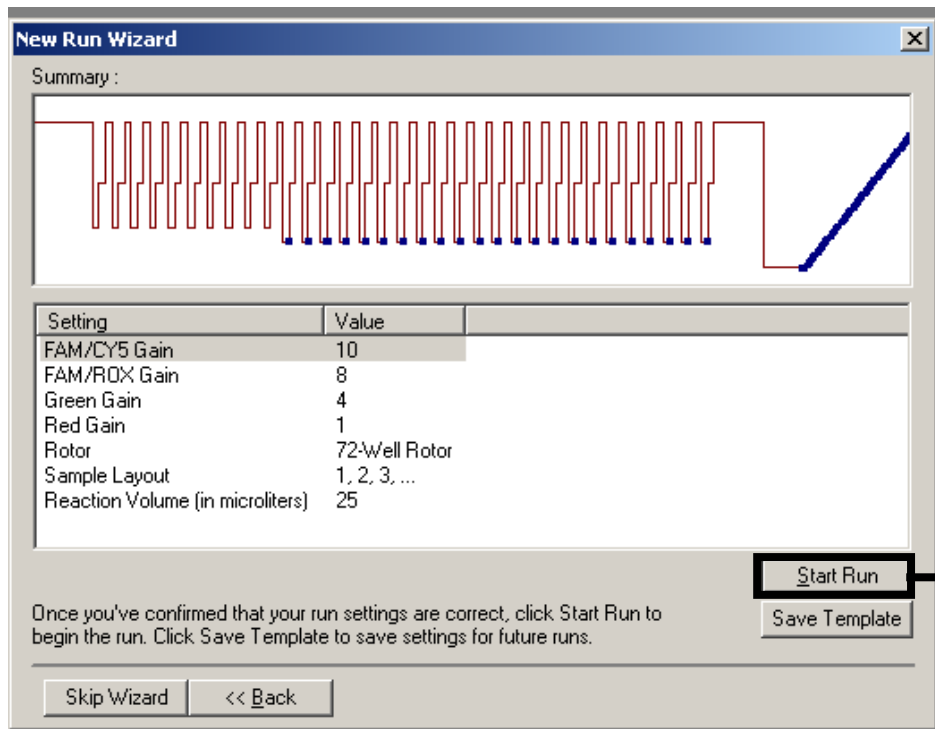

Figure 20. Starting the run.
Starting the run	Figure 20
- Start the run (**Figure 20**) using the saved template (step 12).